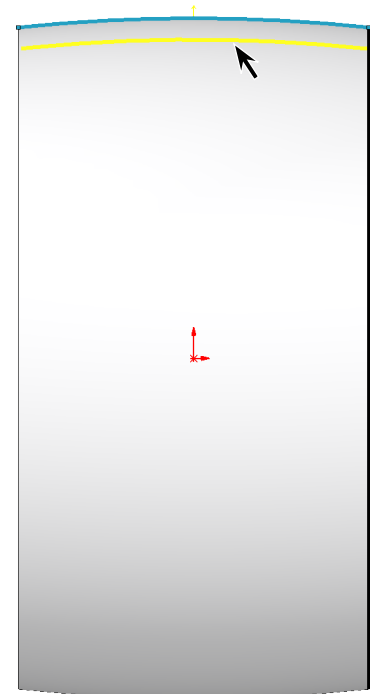

Fig. 14
- click **converted arc**, **Fig. 14**